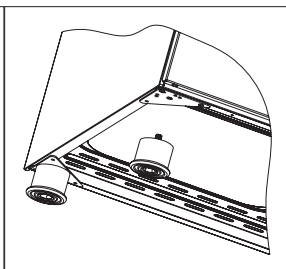

Figure 3
3.If your oven has plastic food as in (Figure 3) you can adjust your ovens height from these feet as turned clockwise or anticlockwise.